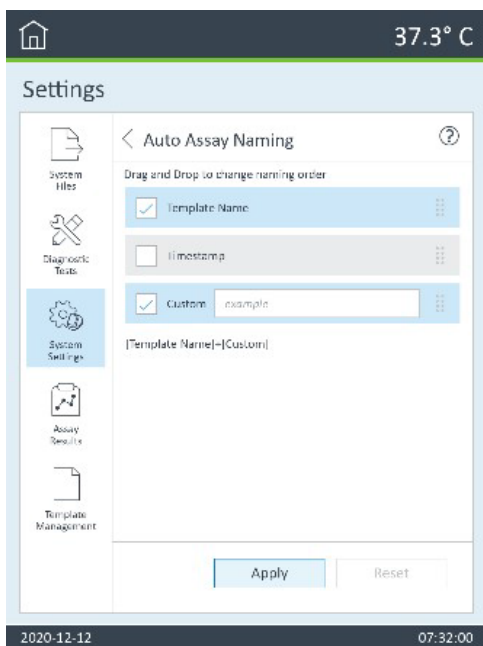

Figure 21. Auto assay naming window.
Auto assay naming allows users to specify the default name for each Assay Result File (\*.asyr) that is created on the XFp Analyzer. See **Figure 21**.
- 1 Adjust the order of each variable by dragging and dropping the selection in the order desired. **Figure 21** shows the configuration (template name) - (Timestamp).